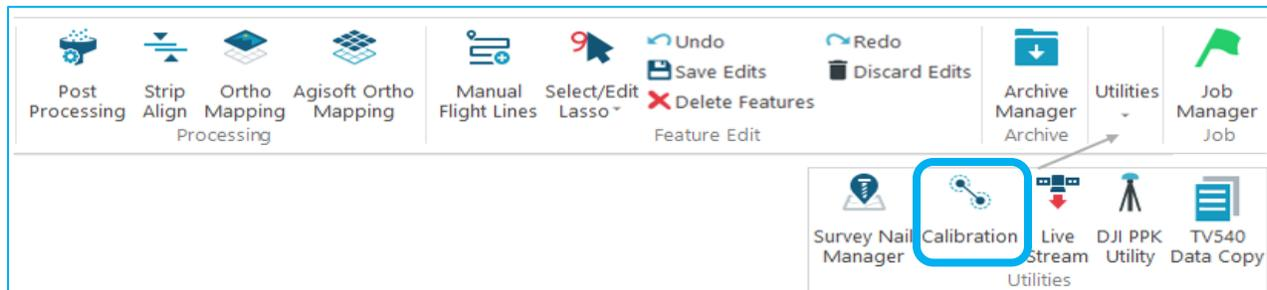
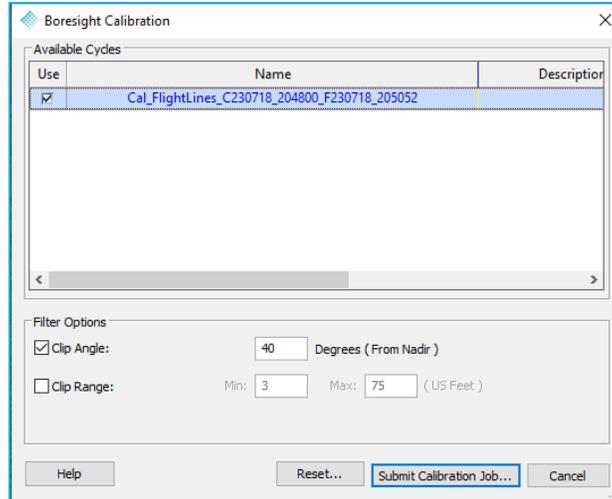

Figure 120 - Calibration on the Sensor tab
Figure 121 – Boresite Calibration dialog
2. Select **Calibration**  on the Sensor tab (Figure 120) to open the Boresite Calibration dialog (Figure 121). **Note:** To enable this tool requires a “Strip Adjustment” addon license be checked out in addition to the “LP360 Drone” license.